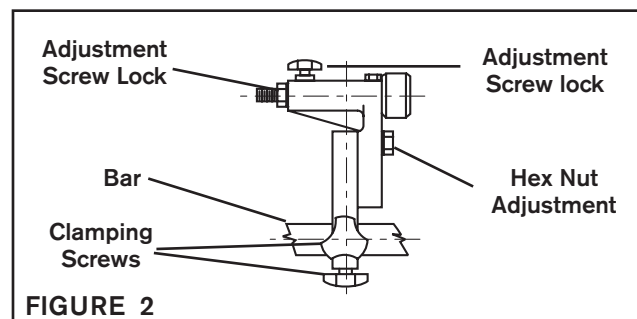

FIGURE 2
1. Secure UH01 to threaded extension of Mounting Bracket Adjusting Screw (See Figure 2).